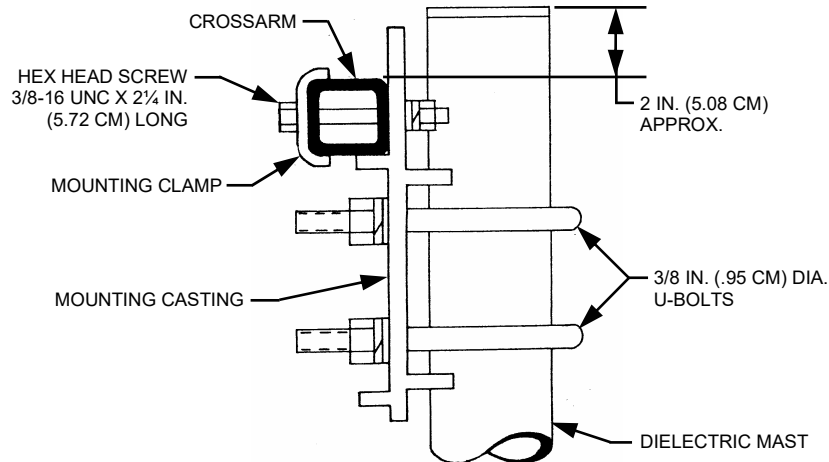

FIGURE 4
1. To ground the antenna attach a ground wire under the head of the 3/8-16 x 2/4 in. long hex head screw at the mounting casting (see Figure 4). Run the ground wire down the mast to a ground rod driven at least 4 feet into the ground. If it is preferred to run the ground wire inside the mast, drill a hole through the mast cap. Run the ground wire through the hole and weatherproof with RTV or equivalent compound.
1. Assemble the mounting casting to the dipole-fitting side of the crossarm as shown in Figure 4, using the mounting clamp and the 3/8-16 x 2 1/4" long hex head screws.